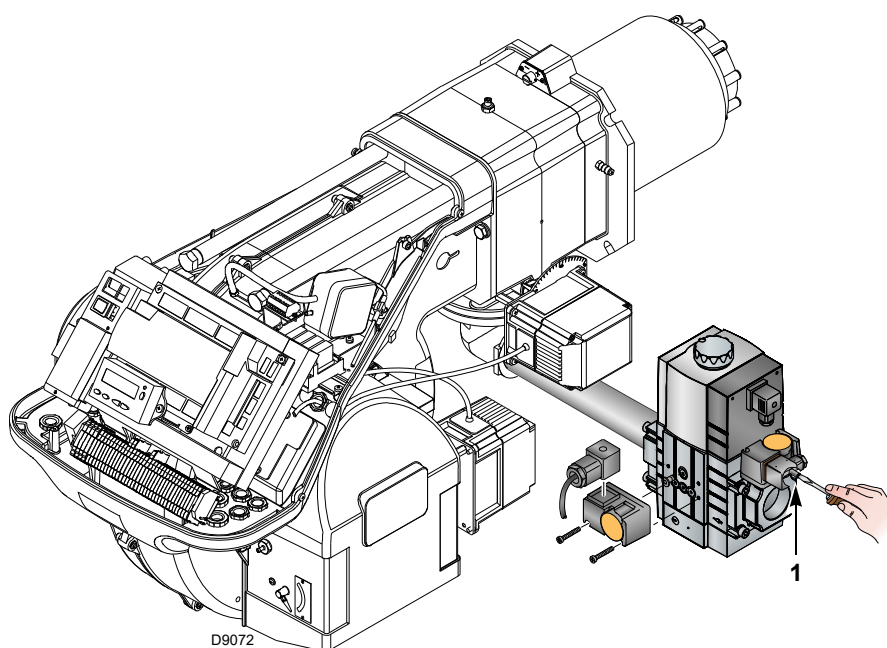

Fig. 32
- Check the gas supply pressure by connecting a pressure gauge to the pressure test point 1)(Fig. 32) of the minimum gas pressure switch: it must be lower than the maximum allowed pressure of the gas train, as shown on the characteristics label.